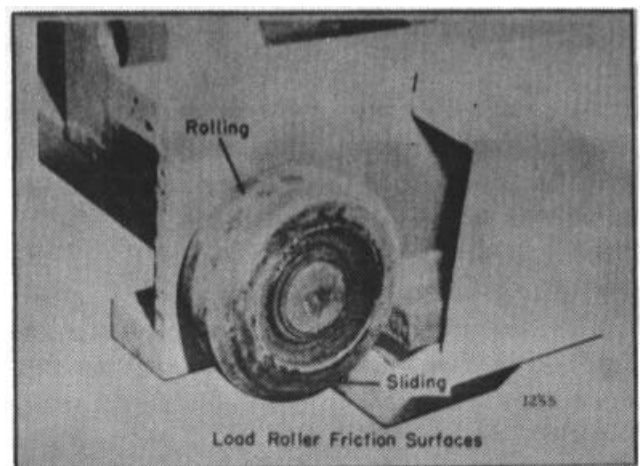

Figure 15.
9. Apply a light coat of "Moly grease" to uprights wherever the sides of the load rollers make contact. Do not grease the rolling surfaces as the roller may slide instead of rotating during operation. (Figs. 15 and 16) Apply grease to the intermediate upright-to-strip bearing contacting surfaces.